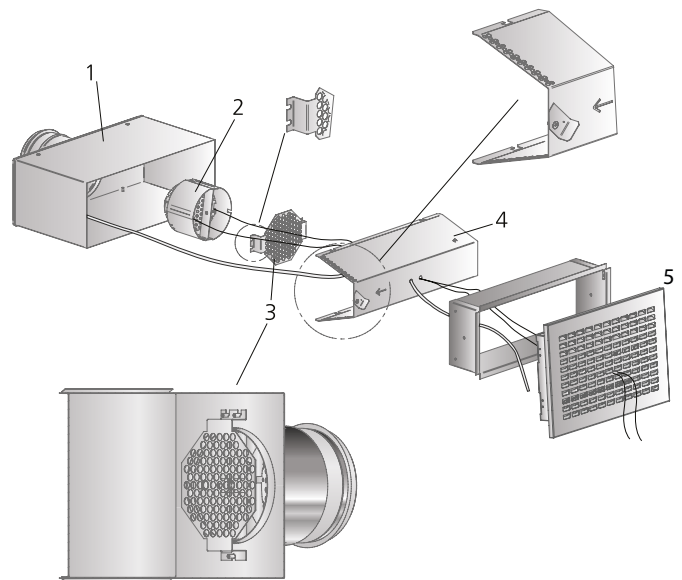

Figure 1. Installation. To secure baffle (4) in bayonet catch and to secure the octagonal perforated face plate (3) against the duct connection.
The ALV commissioning box is well-suited for installation in 1200 mm plasterboard walls (600 mm centre to centre) and 900 mm plasterboard walls (450 mm centre to centre). See figure 1.
4. The assembly and dismantling of the component parts are shown in Figure 1.
ing screw in the air distribution baffle. See Figure 1. The rated coefficient of performance (K-factor) is specified on the identification label of the product and in the relevant commissioning instructions at www.swegon.com.
Clean the air diffuser when necessary using lukewarm water with added detergent. The duct system can be accessed after opening the diffuser face by pulling it down from the upper edge, withdrawing the air distribution baffle and lowering the fully open damper. See Figure 1.